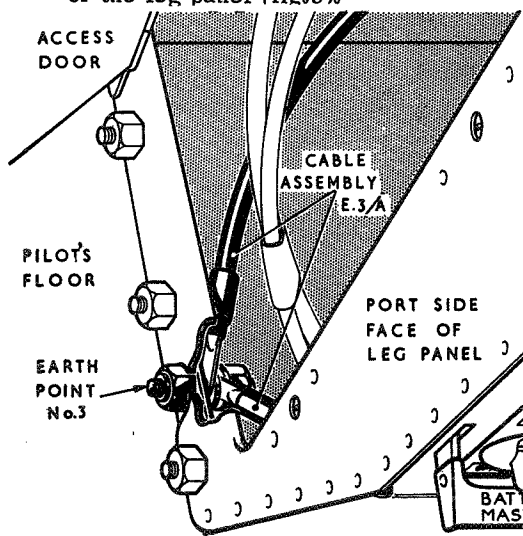

Fig.3 Earth point 3
- (4) Disconnect cable assembly A.11 and A.12 at the cable break at frame 8. Remove any straps and clips securing cable assembly A.11 and coil it back to the leg panel. Fit approved caps and covers to the plug and socket.
- (5) Disconnect cable assembly E3/A from earth point 3, obtaining access via the hinged door in the port side of the leg panel (fig.3).